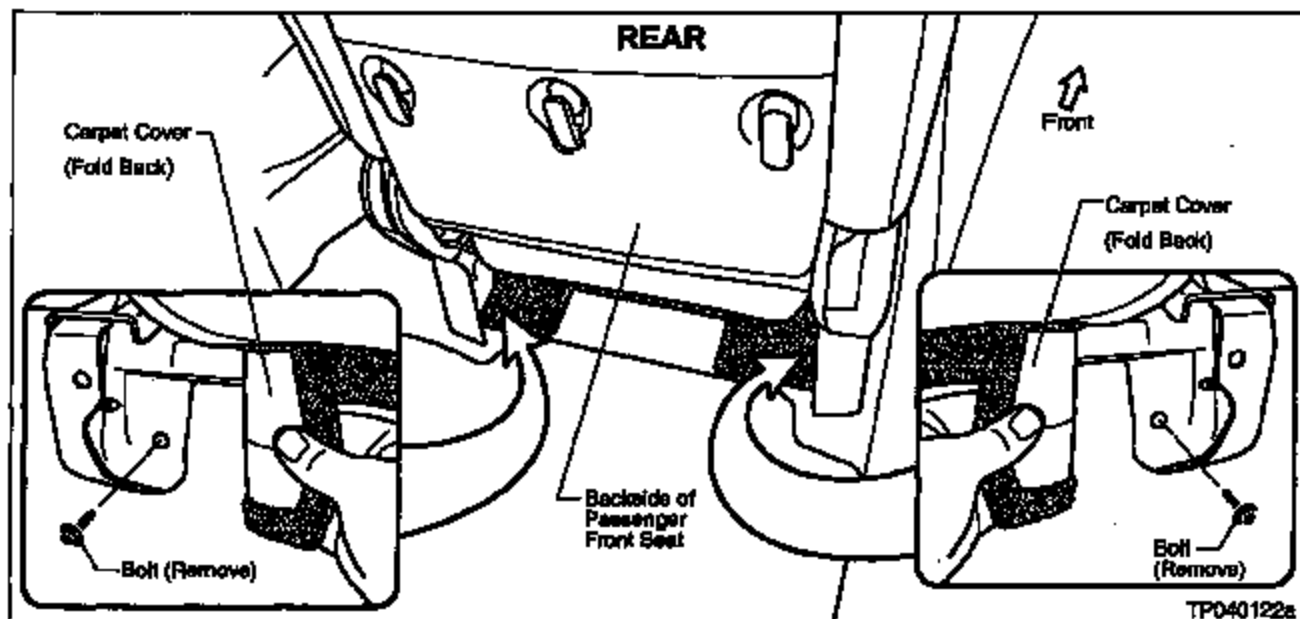

Figure 8
- a. To reach the Mounting Bolts, carefully fold the Carpet Cover back towards the rear of the vehicle (see Figure 8).